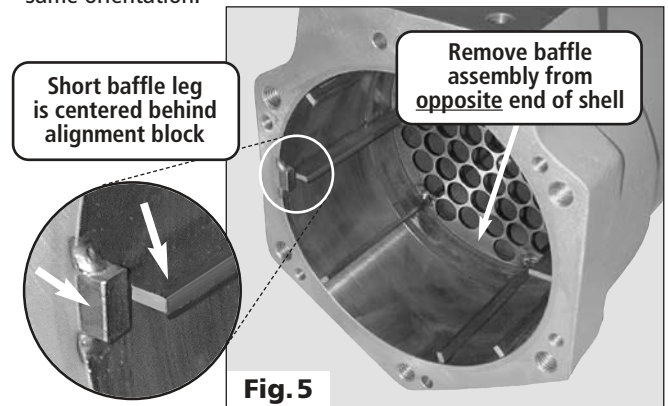

Fig. 5
8. Remove the baffle assembly. Note its orientation in the shell. See **Fig. 5**. It will have to go back into the shell in the same orientation.
The short leg of the longitudinal baffle bars must be centered behind the alignment block on the inside of the shell. See page 4, Fig. 5